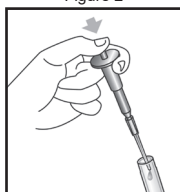

Figure 3
3. Hold the minipet over the empty sample cup, and depress the plunger to dispense sample (fig. 3).